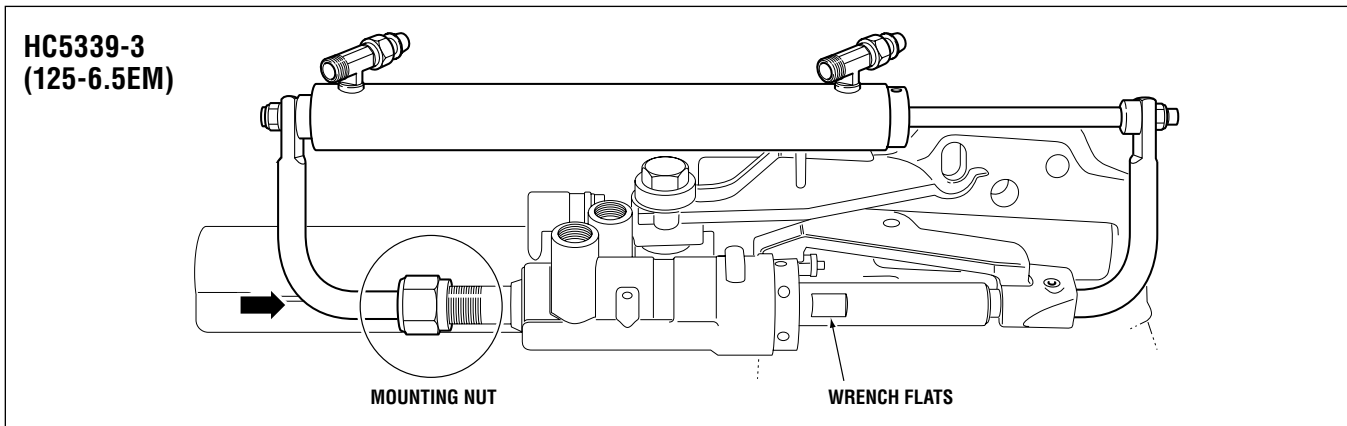

Figure 15.
- 4** Extend HC5339-3 cylinder as required and insert the short rod into the tilt tube as shown in figure 15.